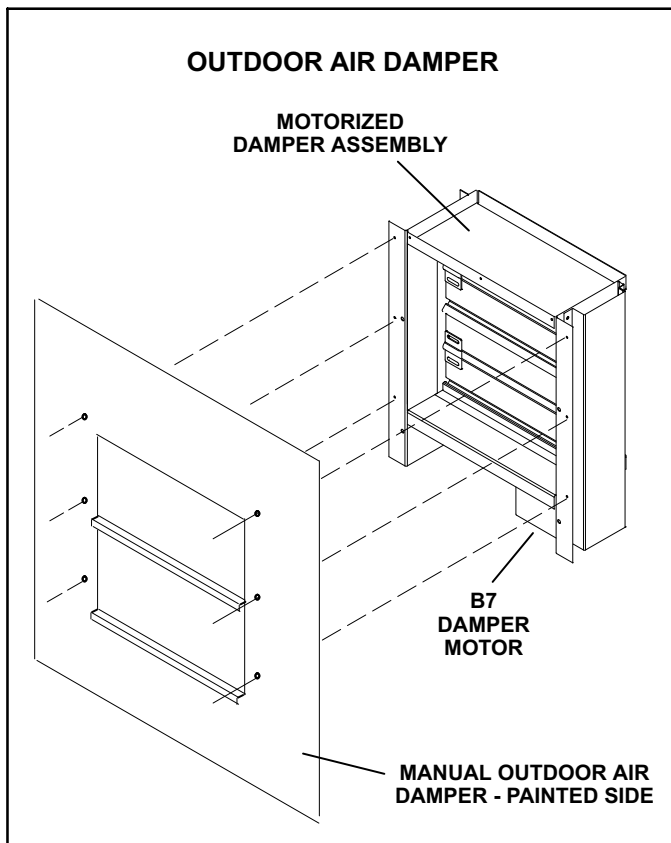

FIGURE 16
T1DAMP11A-1 is available for TCA 2, 2.5, 3, 4 and 5 ton unit and T1DAMP11N-1 is available for the TCA 6 ton units. Both sets include the outdoor air hood. A motorized kit (T1DAMP21AN1) can be ordered separately for all TCA unit sizes. The dampers may be manually or motor (M) operated to allow up to 25 percent outside air into the system at all times (see figure 16). Washable filter supplied with the outdoor air dampers can be cleaned with water and a mild detergent. It should be sprayed with Filter Handicoater when dry prior to reinstallation. Filter Handicoater is R.P. Products coating no. 418.